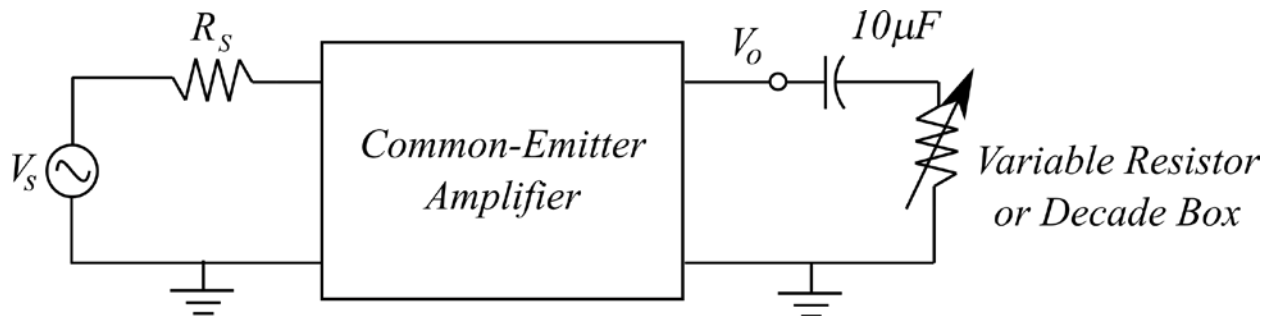

Figure 2: The decade box must be capacitively coupled as shown.
5. **Measure the output resistance of the amplifier** by returning the generator frequency to 3 kHz and make sure that the output is still 6 V peak-to-peak. Connect a decade box through a $10\ \mu\text{F}$ capacitor as shown in Figure 2. Change the decade box resistance until the output is exactly half (i.e., 3 V peak-to-peak). **The resistance of the decade box will equal the output resistance of the amplifier.**